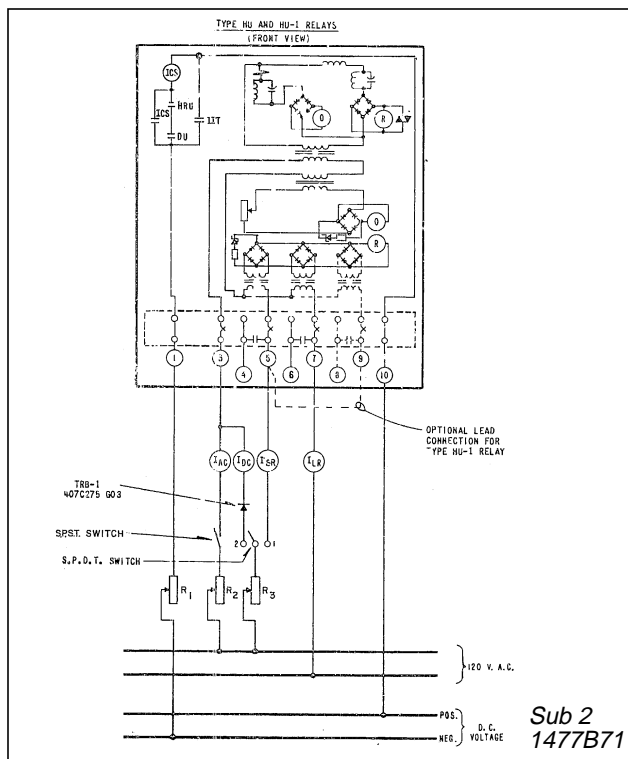

Figure 16. Test Circuit of the HU and HU-1 Relays
the relay is in proper working order. All checks can best be performed by connecting the relay per the test circuit of figure 16. **RELAY MUST BE TESTED IN CASE.**
Table 2 is to be used as an in-service check of the HU or HU-1 relay using any tap combination. This test also checks against reversed tap connections. The relay should be connected as shown in figure 16 with the SPDT switch in position 1. The ammeter I_{SR} measures the smaller restraint current and should be connected to the terminal associated with the tap block of the smaller setting. The ammeter I_{LR} measures the larger restraint current, and should be connected to the terminal associated with the larger tap block setting. Terminal 5 supplies the upper tap block; terminal 7 supplies the second tap block; and terminal 9 (HU-1 only) supplies the lower tap block (refer to figures 3 and 4).
1. Polarization Test - Connect the relay per test circuit of figure 16. Close SPDT switch to position 2 and open SPST switch (I_{ac} = 0). Pass I_{dc} = 0.8 times tap value current (4 amperes dc on 5 ampere tap) into the relay.